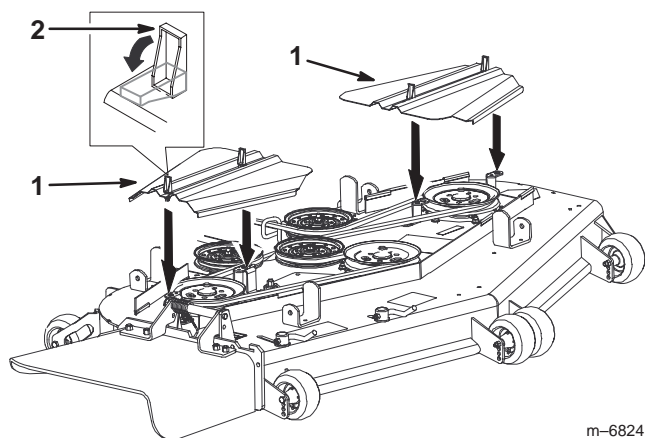

Figure 73
3. Remove the belt covers (Fig. 73).
7. Install the belt covers and close the latches (Fig. 73).